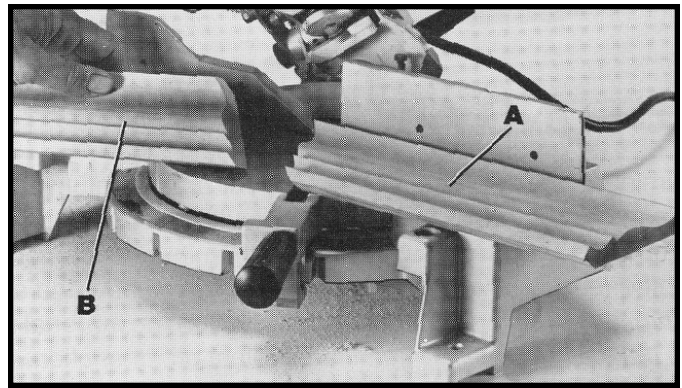
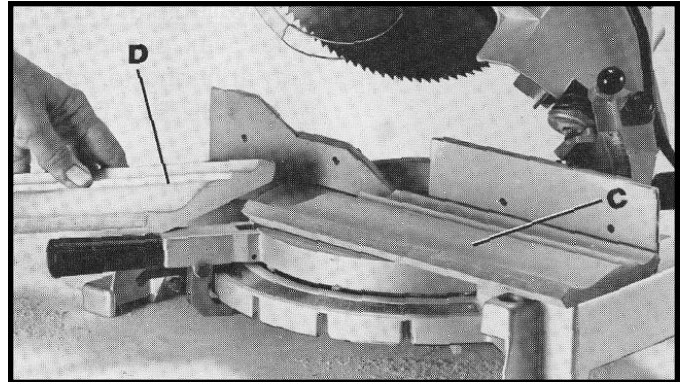
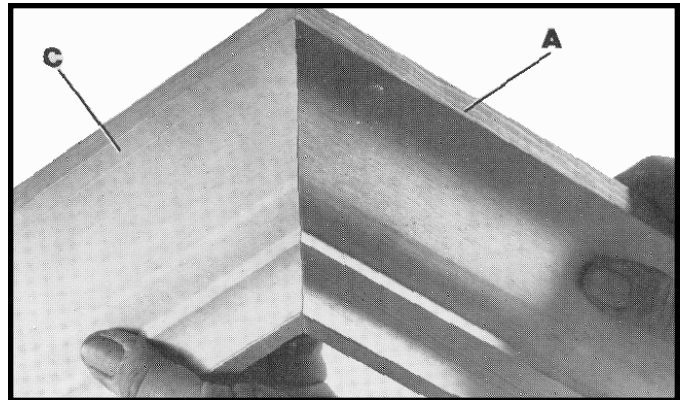
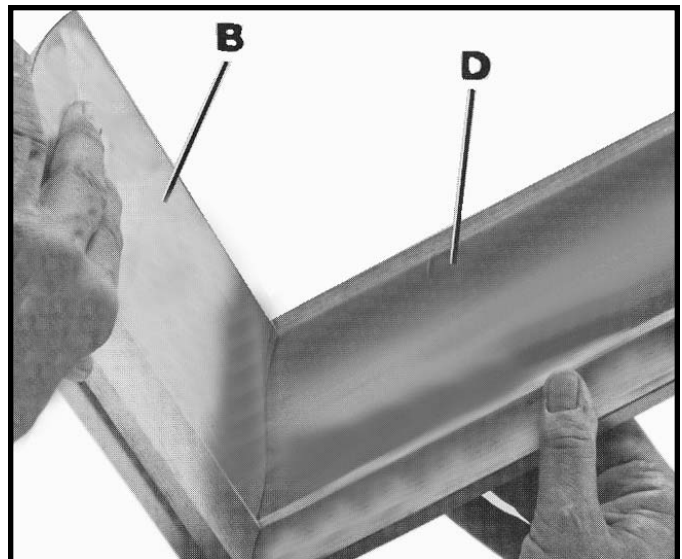

Fig. 42
Fig. 43
Fig. 44
Fig. 45
3. Place the crown moulding on the table with the CEILING EDGE of the moulding against the fence, and make the cut, as shown in Fig. 42. NOTE: The piece of crown moulding used for the outside corner will always be on the right hand side of the blade, as shown at (A) Fig. 42. The piece of crown moulding used for the inside corner will always be on the left hand side of the blade, as shown at (B) Fig. 42.
5. Place the crown moulding on the table with the WALL EDGE of the crown moulding against the fence and make the cut. Again, the piece of crown moulding used for the outside corner will always be on the right side of the blade, as shown at (C) Fig. 43. The piece of crown moulding used for the inside corner will always be on the left side of the blade, as shown at (D) Fig. 43.
6. Fig. 44, illustrates the two outside corner pieces; (A) being the piece cut at (A) Fig. 42, and (C) being the piece cut at (C) Fig. 43.
7. Fig. 45, illustrates the two inside corner pieces; (B) being the piece cut at (B) Fig. 42, and (D) being the piece cut at (D) Fig. 43.